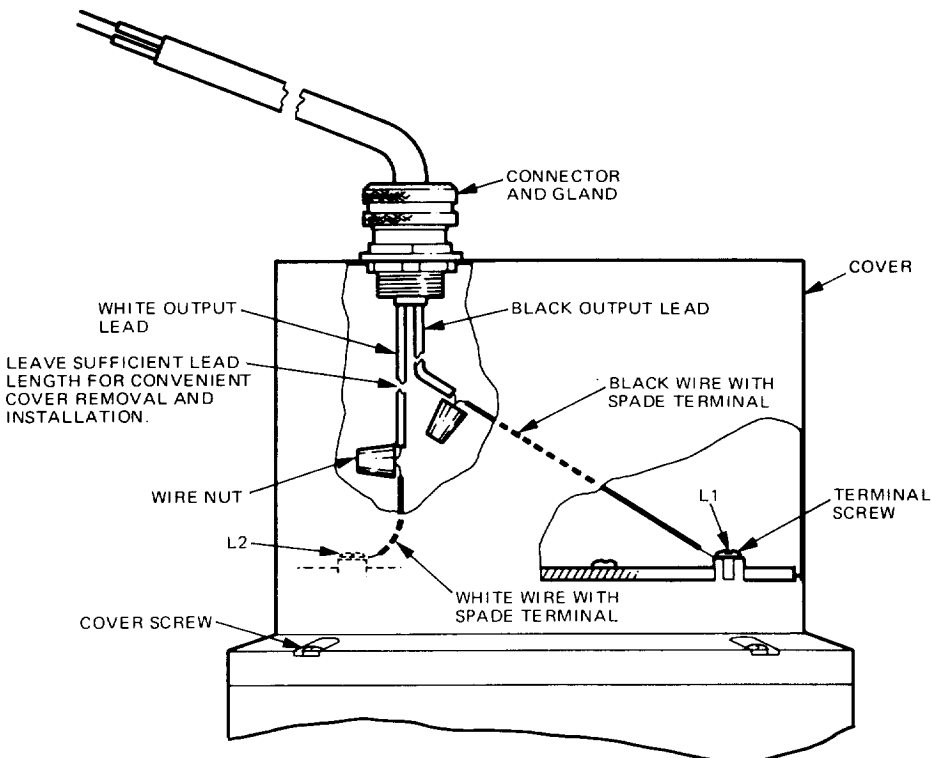

Figure 5. Wire Connections for 290 Series
To connect output leads to 290 series, refer to details of Figure 5:
2. Align transformer with appropriate mounting holes in driver; secure with screws supplied. Figure 5 illustrates a typical transformer installed.